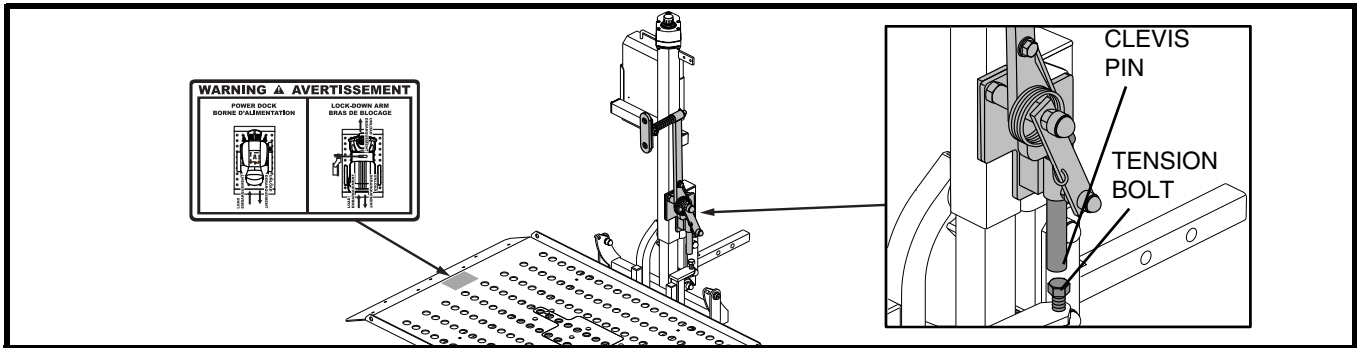

Figure 5. Tension Bolt and Clevis Pin Adjustment
10. Attach the supplied warning label to the lift platform. See figure 5.